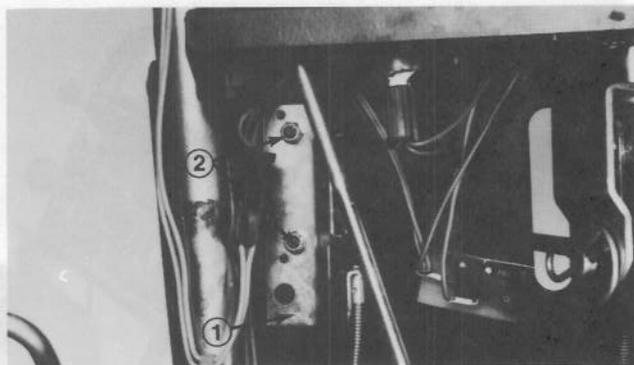

Figure 5
1. From back side, slide throttle control lever through slot in control panel. Take care not to damage the wires. Secure throttle control plate in place with two hex head sems screws and locknuts (Fig. 5). Carefully tap red knob onto throttle lever.